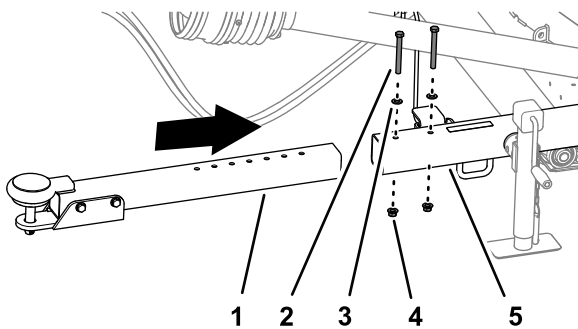

Figure 6
1. Remove the 2 flange locknuts, 2 capscrews, and 2 washers that secure the hitch tube to the receiver tube (Figure 6).